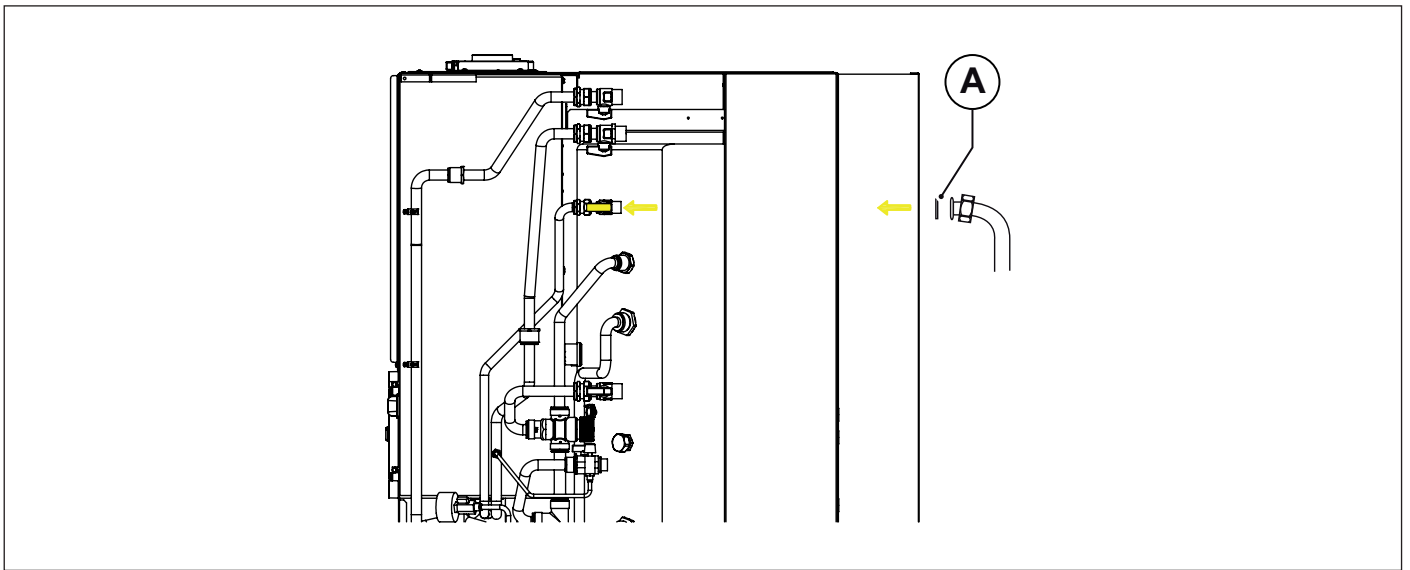

Fig. 17 Connection to gas mains
When connecting the boiler to gas supply network, it is COMPULSORY to install an appropriately sized gasket (A) made from suitable material (see Fig. 17 Connection to gas mains).